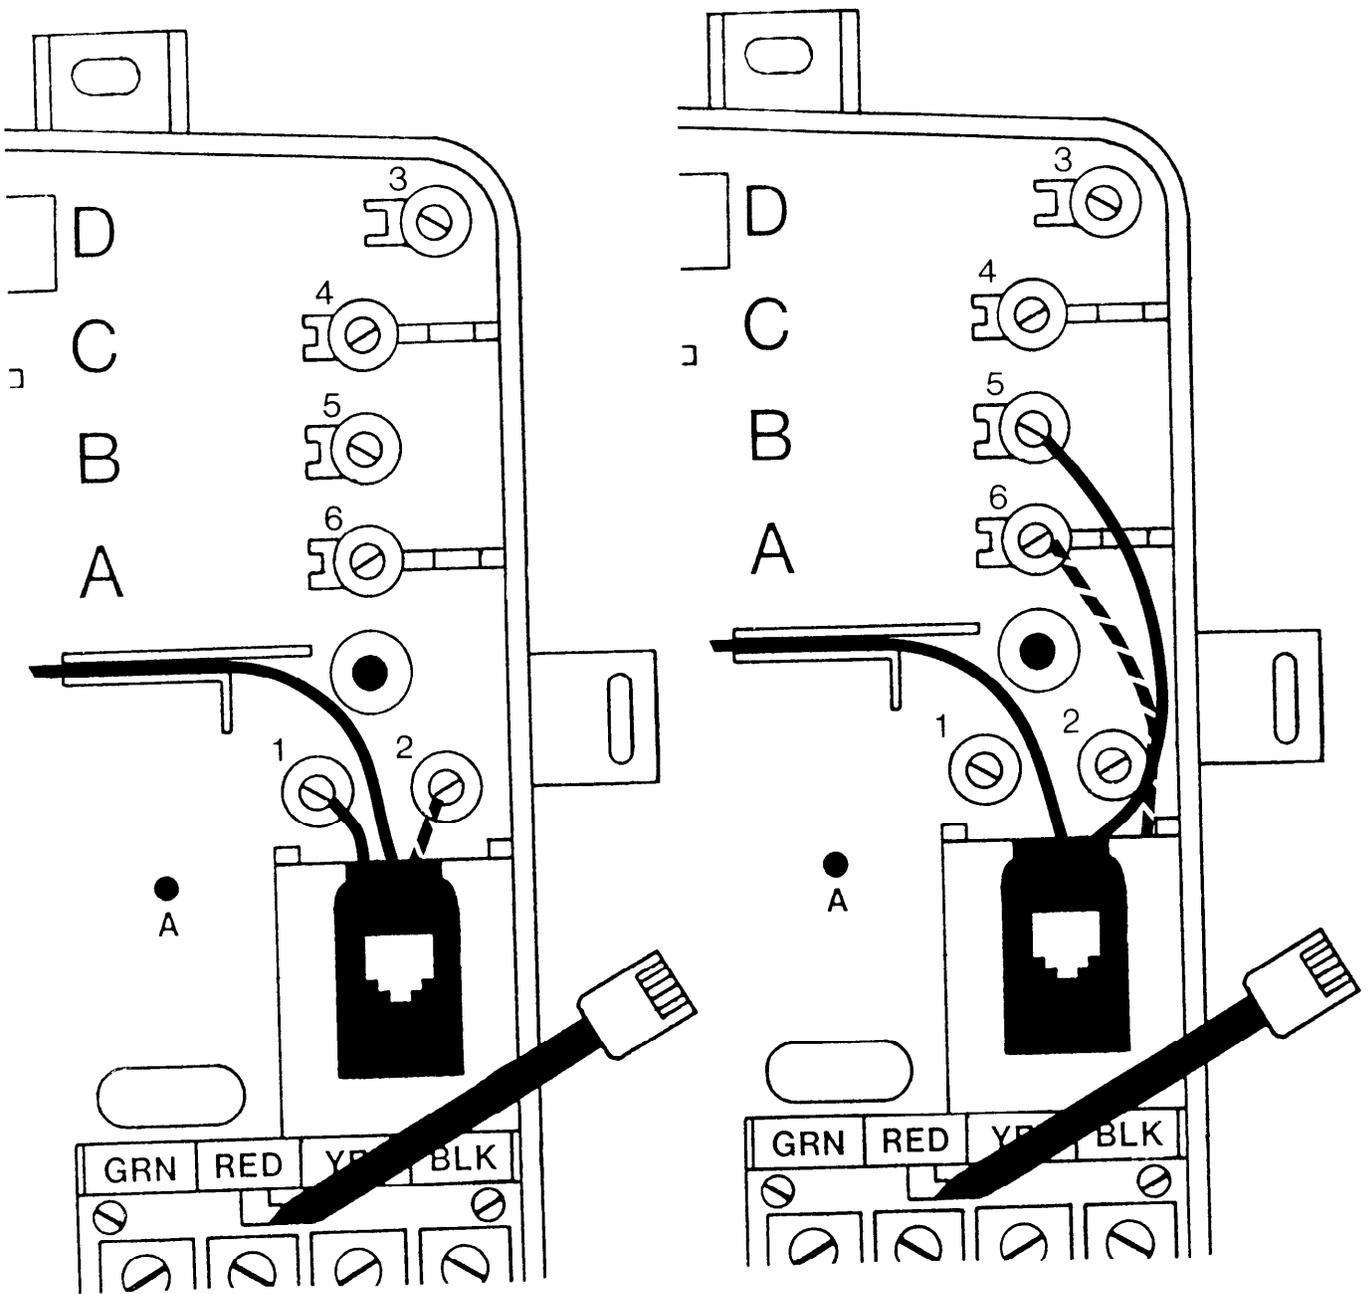

Fig. 2—Wiring the modular jack when installing the DNI-910 in an SNI-2100
3.04 In the Network Interface, move the Green and Red wires on the modular jack from terminals 1 and 2 (C.O. Tip and Ring) to terminals 5 and 6 (Station Tip and Ring). Refer to Figure 2.